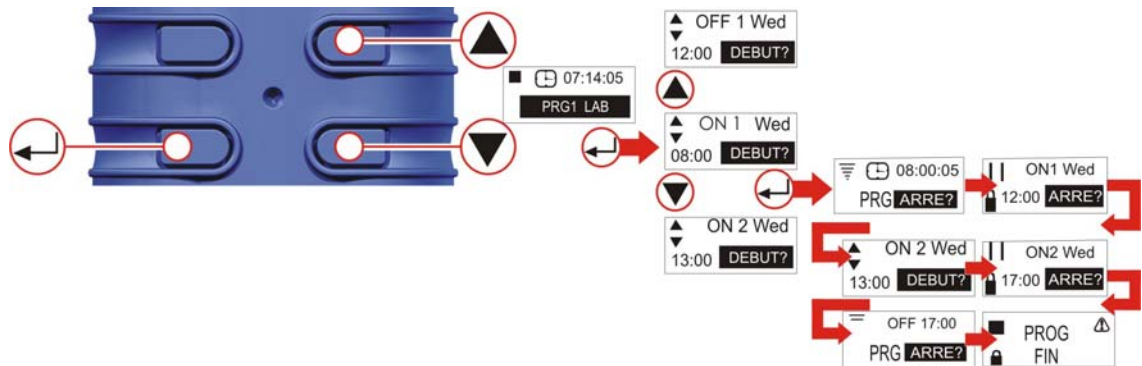

Figure 10 Mode programme
G. MODE PROGRAMME (PRO UNIQUEMENT) (fig. 10)